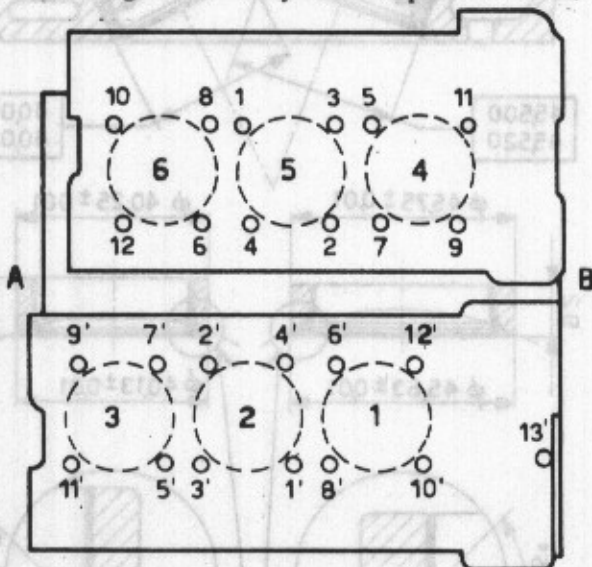

Fig. 14 Head bolts tightening sequence.
-Tighten the cylinder heads to block stud nuts in the order illustrated in fig. 14 in two steps: